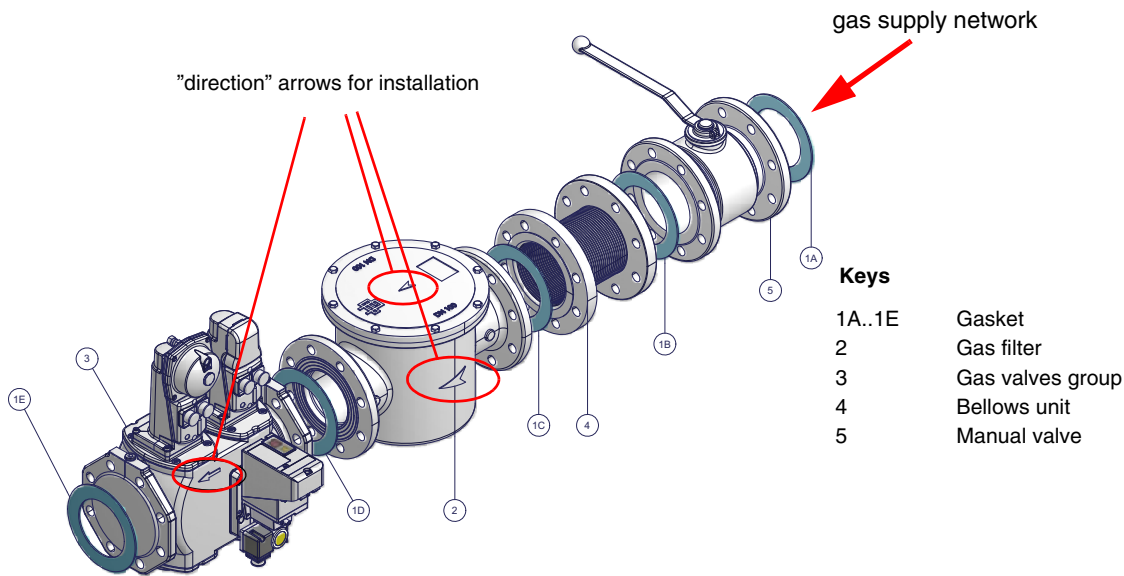

Fig. 7 - Example for gas train
- 1-b) in case of flanged joints: place a gasket (no. 1A..1E - Fig. 7) between the items
**ATTENTION:** once the gas train is mounted according to the diagram on Fig. 7, the gas proving test mus be performed, according to the procedure set by the laws in force.
**ATTENTION:** once the gas train is mounted according to the diagram on Fig. 7, the gas proving test must be performed, according to the procedure set by the laws in force.